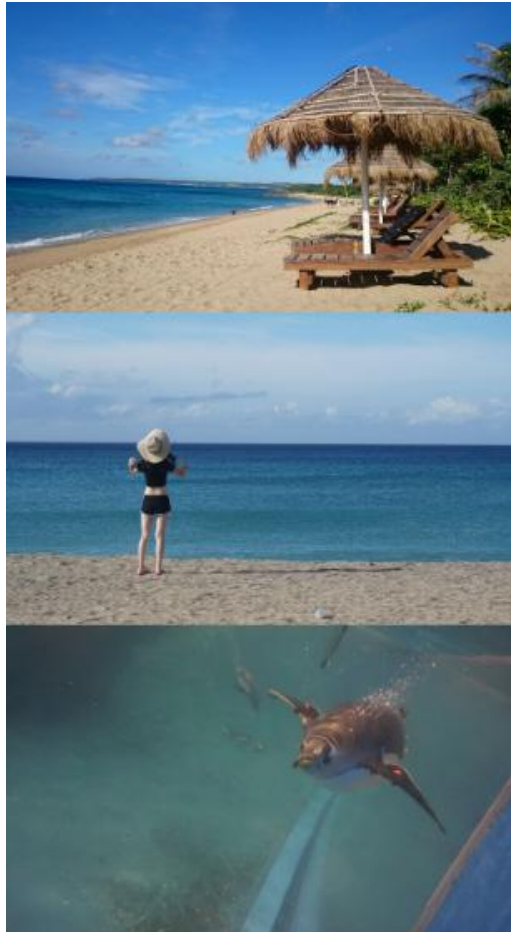

Figure 4-7 Photo Format for the ePhoto Demonstration
2. Use image processing software to vertically merge the three photos into a new photo image with 24-bits color *bitmap* format. The merged photo resolution should be 800 (width) x 1440 (height) pixels, as shown in **Figure 4-7**.